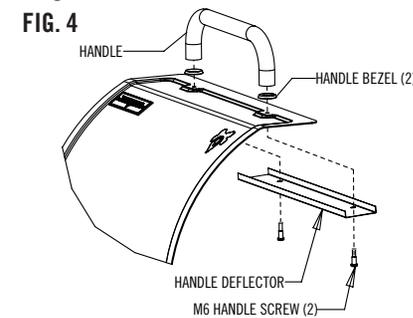

FIG. 4
1. Install the handle as shown in Fig 4.